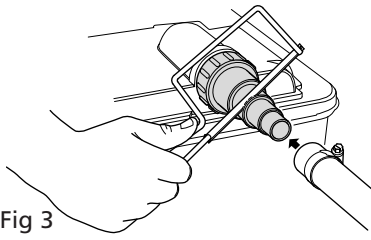

Fig 3
1.3 Cut the inlet hose tail on your Ecoel Filter to the size appropriate for the diameter of the hose to be used (See Fig 3). Then connect the hose from your pump to this inlet hose tail and secure with hose clips, available separately, to ensure there are no leaks. Do not overtighten.